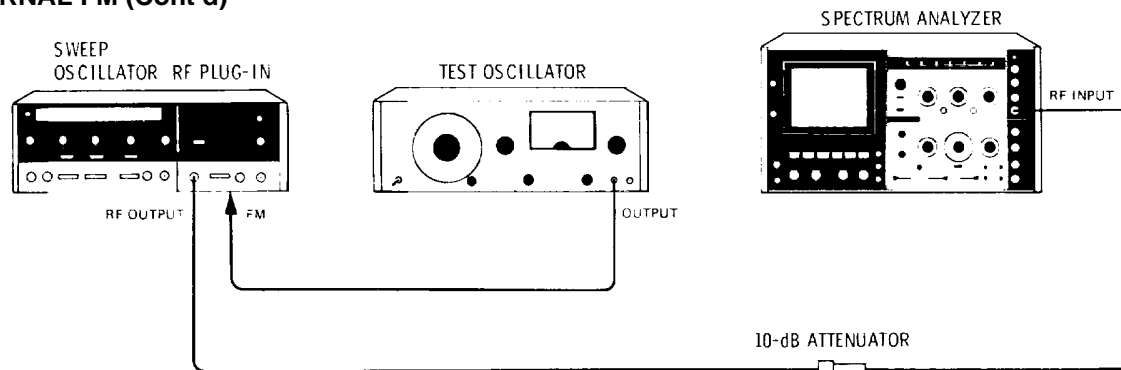

Figure 4-12. External Frequency Modulation Test Setup
- b. Connect spectrum analyzer input through 10-dB attenuator to the RF OUTPUT connector. (See Figure 4-12.) Press 8620A LINE switch to ON.